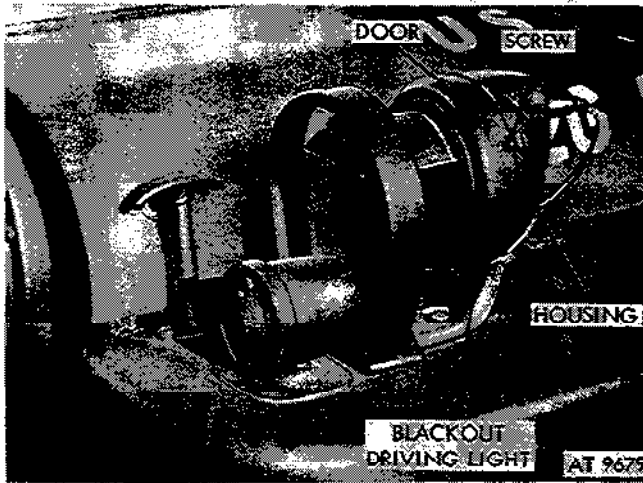

Figure 2-195. Remove blackout light door assembly.
(1) Remove three screws securing door assembly (fig. 2-195).